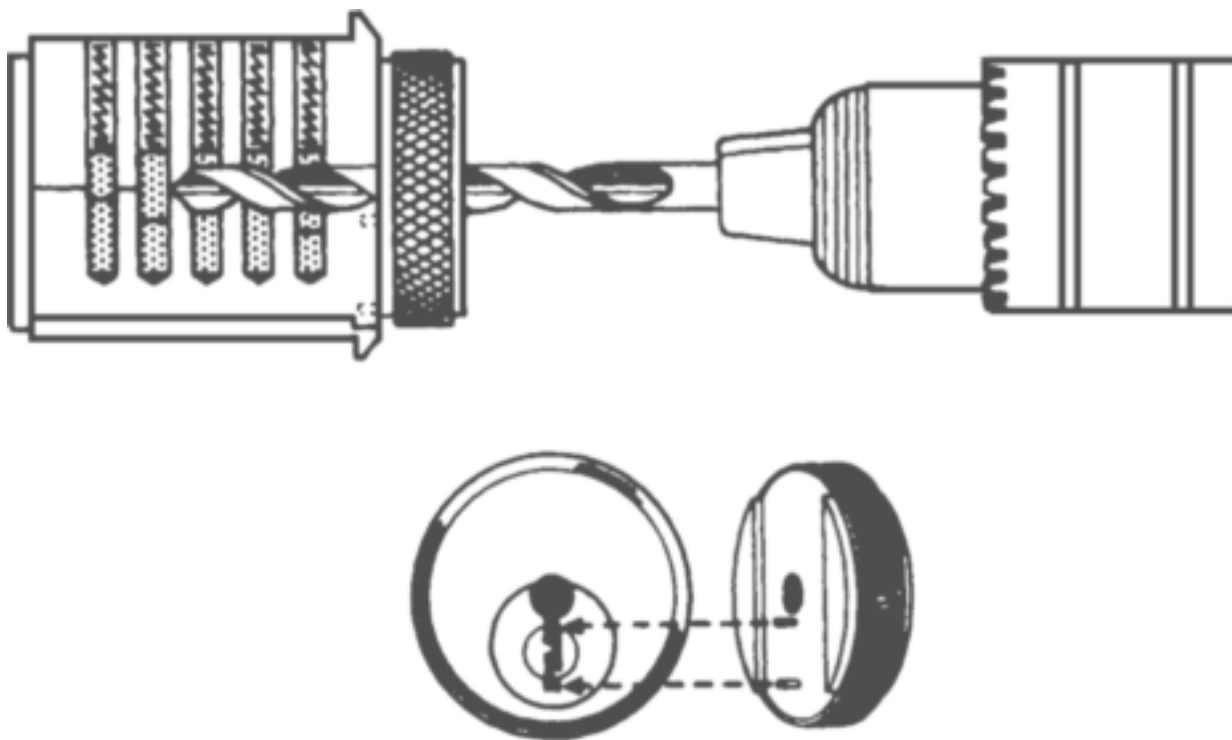

**Figure 17.1** A drilling jig can help you drill straight. (*Desert Publications* )
2. Drill about  $\frac{1}{8}$  inch above the shear line or shoulder of the plug and directly above the top of the keyway (Fig. 17.1). A drilling jig can be useful to ensure that you drill at the proper point on the lock face. Use a  $\frac{1}{8}$ - or  $\frac{3}{16}$ -inch drill bit.